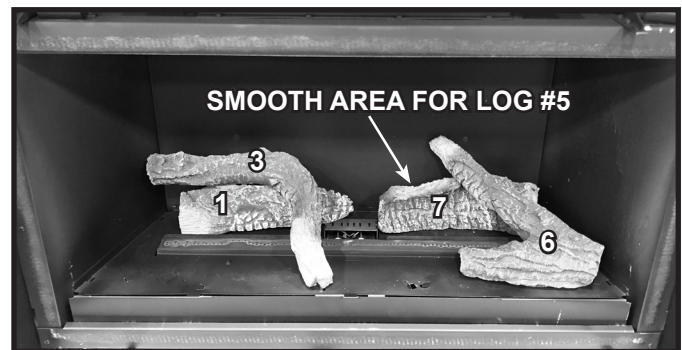

Figure 11.7 Place Log #6
6. Install Log #6 by placing the right end of the log against the right log tab. The left end of the log will contact the back side of the left tab. The back end of Log #6 will sit on top of Log #7. See Figure 11.7.
7. Install Log #5 by placing the forked end down as shown in Figure 11.8. One side of the fork will rest on Log #3 and the other side of the fork will touch the designated log placement tabs. The other end of the logs rests on the smooth area on Log #7 as noted in Figure 11.7. See Figure 11.8.